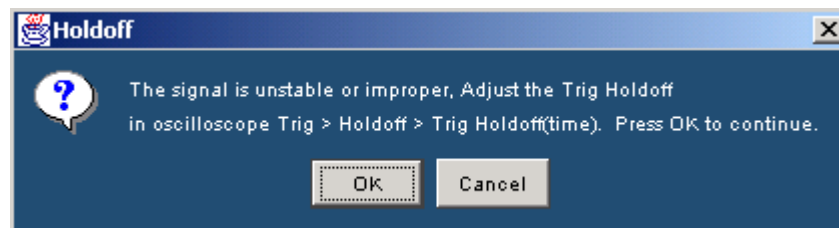

Figure 3-115: Holdoff message box
1. Select **Trig > Holdoff** from the oscilloscope interface as shown in Figure: 3-115.
4. Press **OK** in the Figure 3-115 Holdoff message box to continue the peak to peak jitter measurement and Cancel to stop running the measurement.